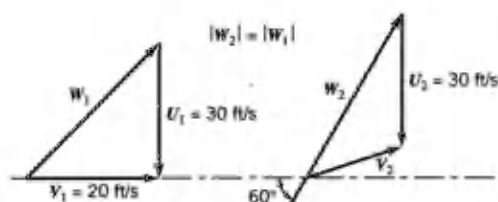

FIGURE P12.2R
12.2R (Velocity triangles) An axial-flow turbomachine rotor involves the upstream (1) and downstream (2) velocity triangles shown in Fig. P12.2R. Is this turbomachine a turbine or a fan? Sketch an appropriate blade section and determine the energy transferred per unit mass of fluid.